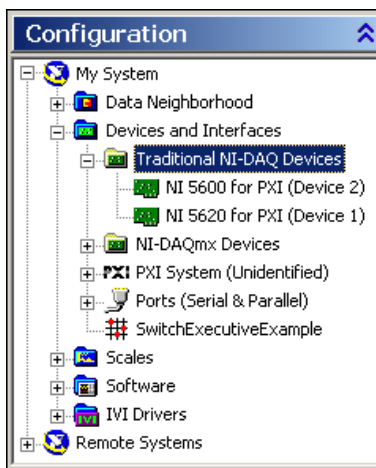

Figure 1-8. Both Modules Appear in MAX
- Expand the **Traditional NI-DAQ Devices** folder. You will see a list of installed devices that includes the NI 5600 and NI 5620 modules, as shown in Figure 1-8 (your default device names may vary).
Note the device numbers assigned to your RF Vector Signal Analyzer hardware modules by MAX (refer to Figure 1-8). These numbers are used to program the RF Vector Signal Analyzer.
Note When programming the RF Vector Signal Analyzer, specify the NI 5620 IF digitizer module using the DAQ Resource Name with the following syntax: `DAQ: : DeviceNumber`. The DAQ Resource Name for the NI 5620 in Figure 1-8 is `DAQ: : 1`.